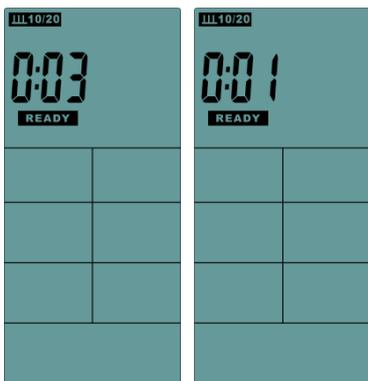
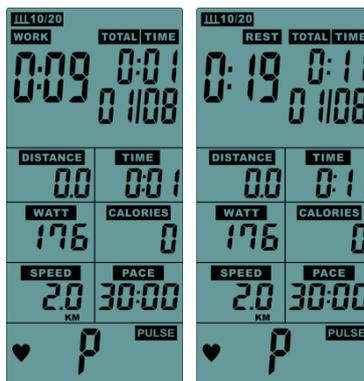
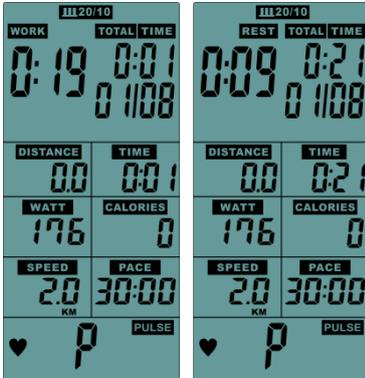

FIG 7
FIG 8
FIG 10
- The "READY" ICON counts down from 3s to 0s, meanwhile with a short buzzer beep (FIG 7), LCD display "01/XX" ("01" is flashing). The "WORK" ICON is flashing one time every 1s with buzzer sounds (shining 0.75s/ put out 0.25s), "TIME" ICON counts down from 10s to 0s, DISTANCE - CALORIES - WATTS - SPEED - RPM count up according the operation (FIG 8).
- The "READY" ICON counts down from 3s to 0s, meanwhile with a short buzzer beep (FIG 7), LCD display "01/XX" ("01" is flashing). The "WORK" ICON is flashing one time every 1s with buzzer sounds (shining 0.75s/ put out 0.25s), "TIME" ICON counts down from 10s to 0s, DISTANCE - CALORIES - WATTS - SPEED - RPM count up according the operation (FIG 10).